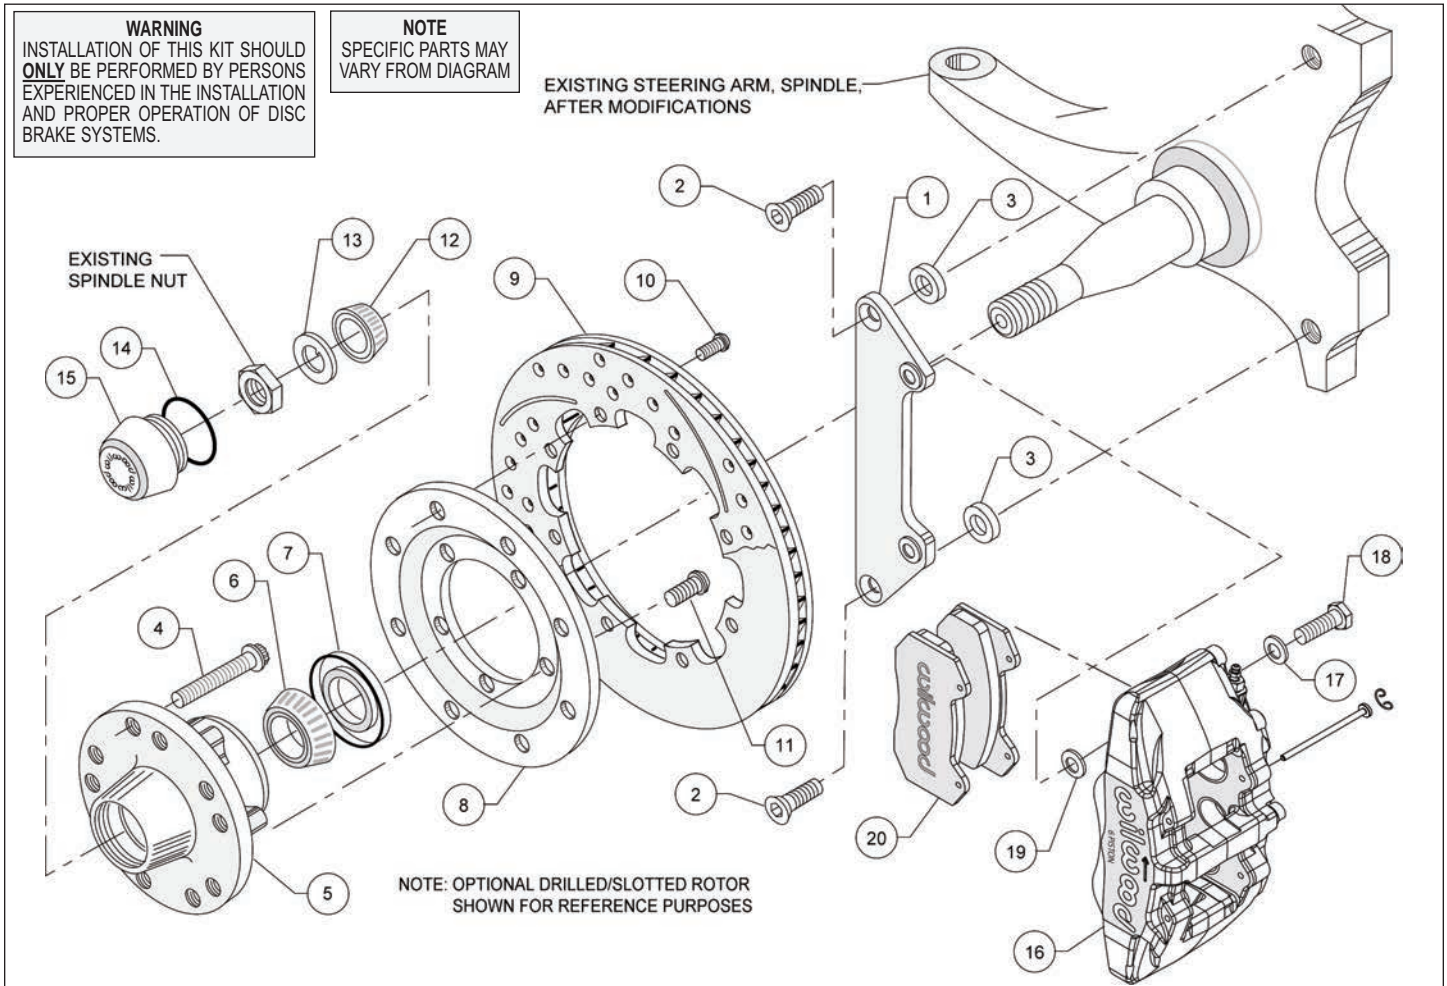
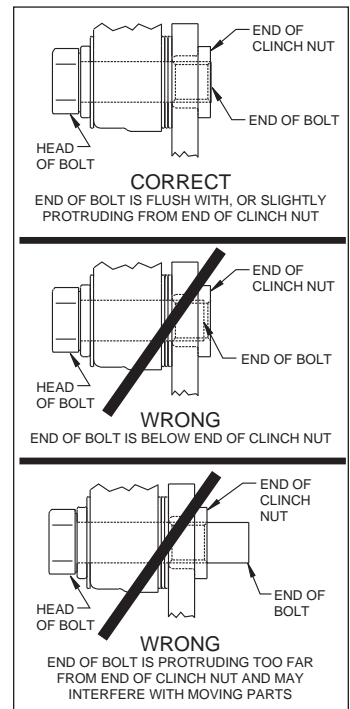

Figure 2. Typical Installation Configuration
Figure 4. Clinch Nut Engagement Diagram
Assembly Instructions (numbers in parenthesis refer to the parts list, and Figure 2): **CAUTION:** All mounting bolts must fully engage clinch nuts. Be sure to check that all bolts are either flush or protruding through flanged side of clinch nut after shimming, Figure 4.
- Orient the caliper mounting bracket (1) with the corresponding holes, to the face of the spindle, as shown in Figure 2. Attach using bolts (2) while positioning spacers (3) between bracket and spindle face. Temporarily tighten the mounting bolts. Ensure that the flanged heads of the clinch nuts in the bracket are facing outboard. **NOTE:** The bracket must fit squarely against the mounting points on the spindle. Inspect for interference from casting irregularities, machining ridges, burrs, etc. Remove bolts one at a time, apply red *Loctite*® 271 to threads and torque to 40 ft-lbs.
- Pack the large inner bearing cone (6) with high temperature disc brake bearing grease (available from your local auto parts store) and install into the backside of the hub (5), Photo 2.
- Install the grease seal (7) by pressing into the backside of the hub (5), flush with the end of the hub, Photo 2.
- Orient the rotor (9) and the rotor adapter (8) as shown in Figure 2 and Photo 3. Attach the rotor to the adapter using bolts (10). Using an alternating sequence, apply red *Loctite*® 271 to the threads, and torque to 25 ft-lb.
- Mount the adapter/rotor assembly (8/9) to the hub (5) using bolts (11), as shown in Figure 2 and Photo 4. Using an alternating sequence, apply red *Loctite*® 271 to the threads, and torque to 45 ft-lb.
•**NOTE:** Please reference the caution statement at the beginning of the assembly instructions. This kit contains distinct right and left hand calipers that must be mounted in a specific direction, as described below. Mount the caliper (16) onto the caliper mounting bracket (1) using bolts (18) and washers (17), as shown in Figure 2. Initially place two .035" thick shims (19) on each bolt between the caliper and the bracket, Photo 7. Ensure that the caliper is mounted so the largest pistons are at the rotor exit end of the caliper, in relation to the direction of rotor rotation. Temporarily tighten the mounting bolts and view the rotor (9) through the top opening of the caliper. The rotor should be centered in the caliper, Photo 8. If not, adjust by adding or subtracting shims between the bracket and the caliper. Always use the same amount of shims on each of the two mounting bolts. **NOTE:** The end of each bolt must be flush with or slightly protruding from the head of the clinch nut, as shown in Figure 4. If necessary place spare shims between washer (17) and caliper mounting ear to achieve the proper clinch nut engagement. Once the caliper alignment and clinch nut engagement are correct, remove the caliper bolts and caliper.